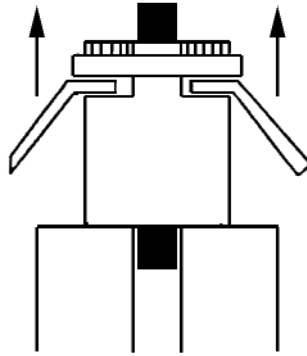

Figure 5: Impeller Removal Example
- 2) Apply force on the wrenches against the internal magnet and rear ring to pop off the rear ring and impeller. Placing the assembly on a raised surface may provide additional leverage (*see Figure 5.*)